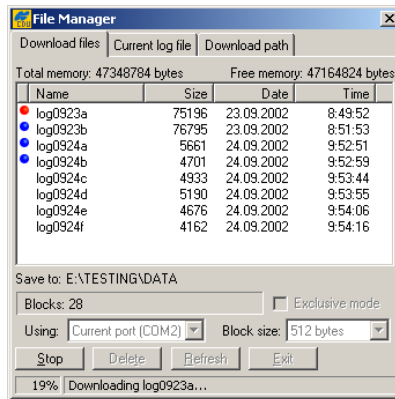

Figure 5-12. Download Files – Status Indicators
- Click the **Download** button. During the download, status indicators display next to each file (Figure 5-12).